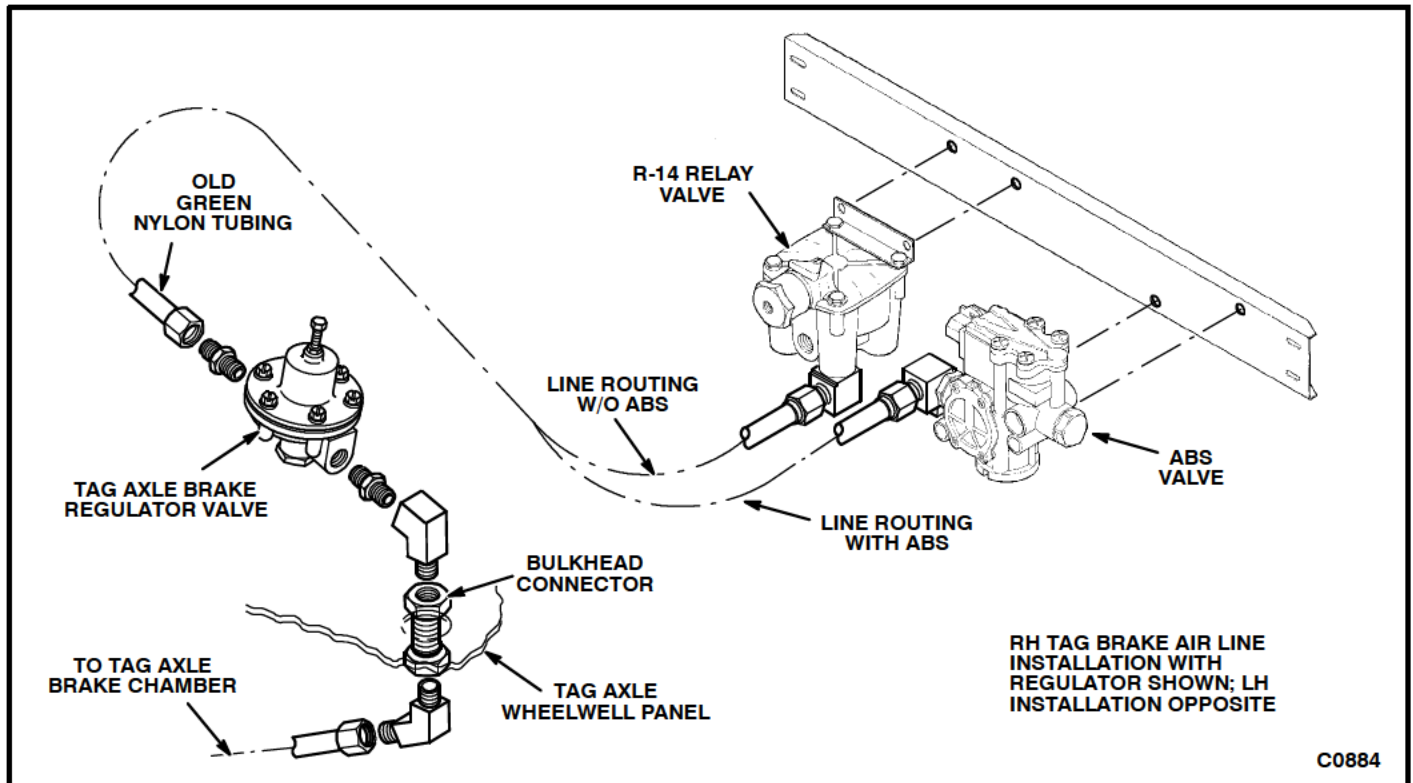

Figure 5. Old Tag Axle Brake Line Installation With Regulator Valve.
2. Remove and discard the 1/2" green nylon airlines connecting the the R-14 valve to the 28 psi tag axle brake regulator valves. See Figure 5.
3. Remove both regulator valve assemblies complete with all fittings from the wheel well bulkhead connectors. Do not remove the bulkhead connector. See Figure 5.